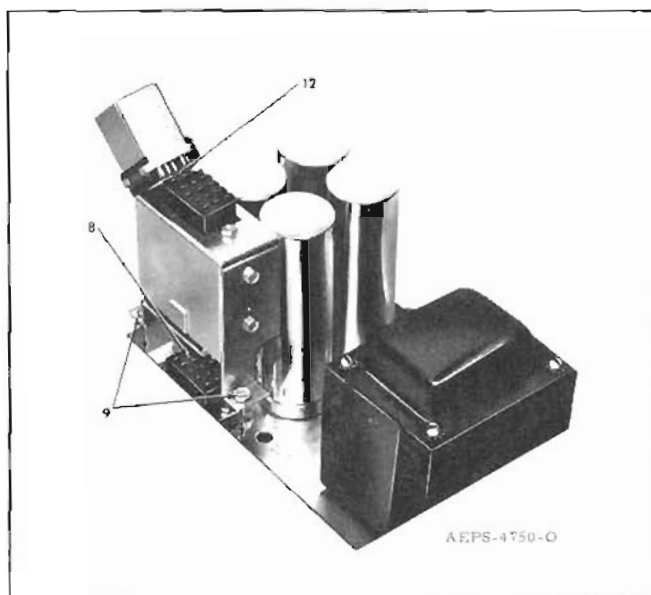

Figure 2. Emergency Reverting Kit Installation
Step 8. Connect the emergency reverting kit to the power supply (item 8 in Figure 2).
Step 9. Tighten screws (item 9 in Figure 2).
Step 12. Connect the 15-pin power cable plug to the emergency reverting kit as indicated at item 12 in Figure 2.